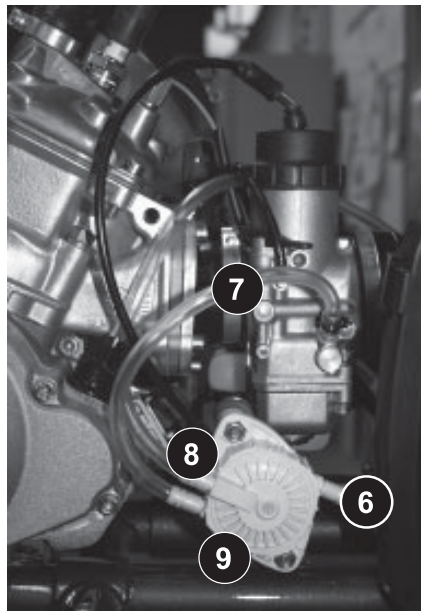

Fig. 100
- ◆ **Note:** On assembly, make sure that all pipes are correctly connected, see Fig. 100.